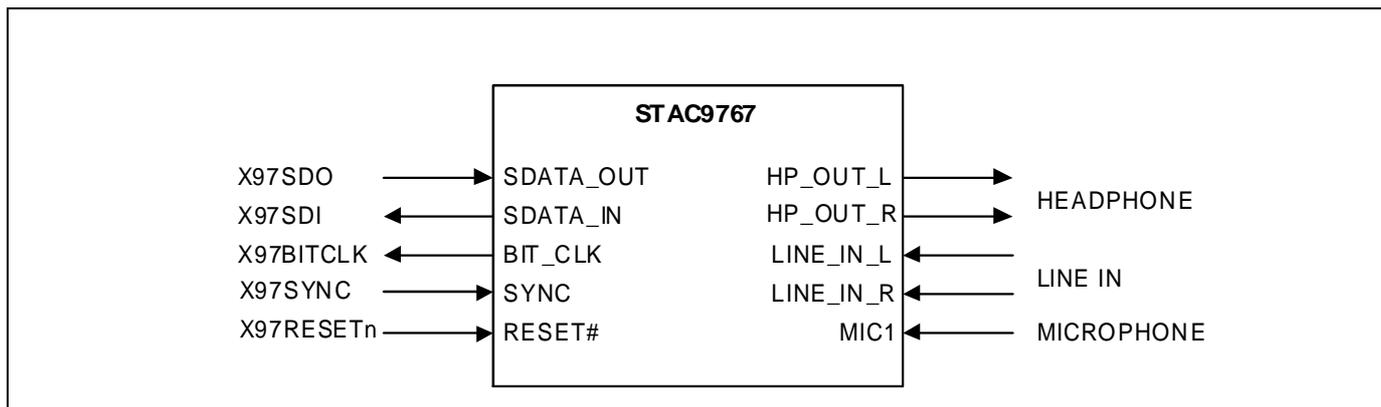

Figure 4-14. STAC9767 Connection with S3C2440A
- UG-32F04 (320x240 mono STN LCD) from SAMSUNG DISPLAY DEVICES CO., LTD. (refer to Figure 4-14)
4-16 4-17	New contents and Figure 4-14 on AC97 Connection with S3C2440X are added into App Notes.